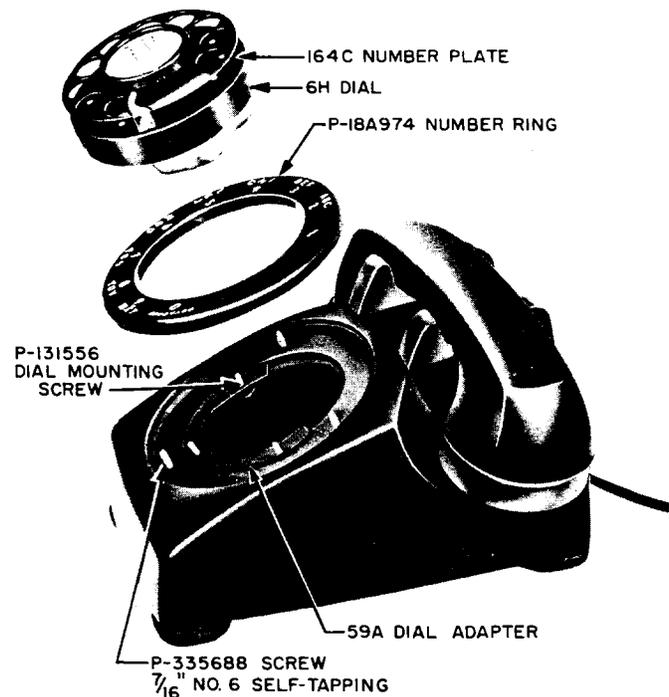

Fig. 6 — Dial Assembly
3.05 This set is equipped with a standard 5- or 6-type dial having a 164C-3 numberplate (Fig. 6).